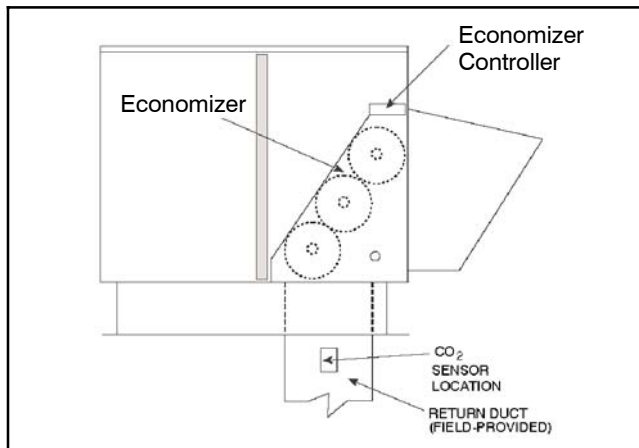

Fig. 4 - CO₂ Sensor Location - PGH/PAH036-150, PGS/PAS072-150, PHH036-120
7. Route wiring harness from the economizer controller to the sensor mounting location in the return air duct using metal clips and wire ties to organize and protect the harness. See Fig. 4.